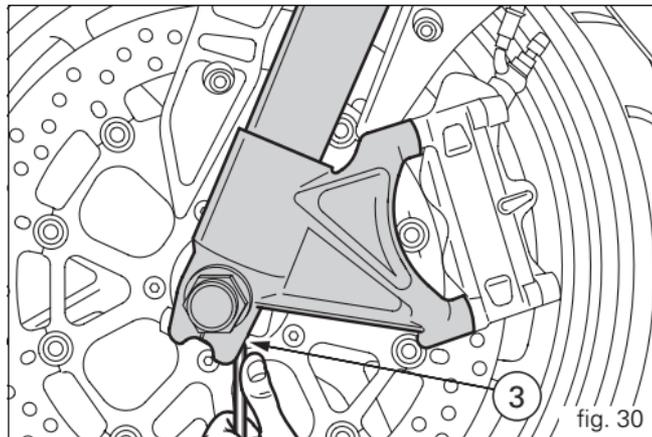

fig. 30
Front fork adjusters (MS4RS) (fig. 29 - fig. 30)
- 3) (fig. 30) to adjust compression damping.
To turn the adjuster (3, fig. 30) insert a 3 mm Allen key through the hole as shown in figure 27. Turn the adjuster screws (1 and 3) while counting the number of clicks; each click corresponds to a damping setting. The stiffest damping setting is obtained with the adjuster turned fully clockwise to the '0' position.